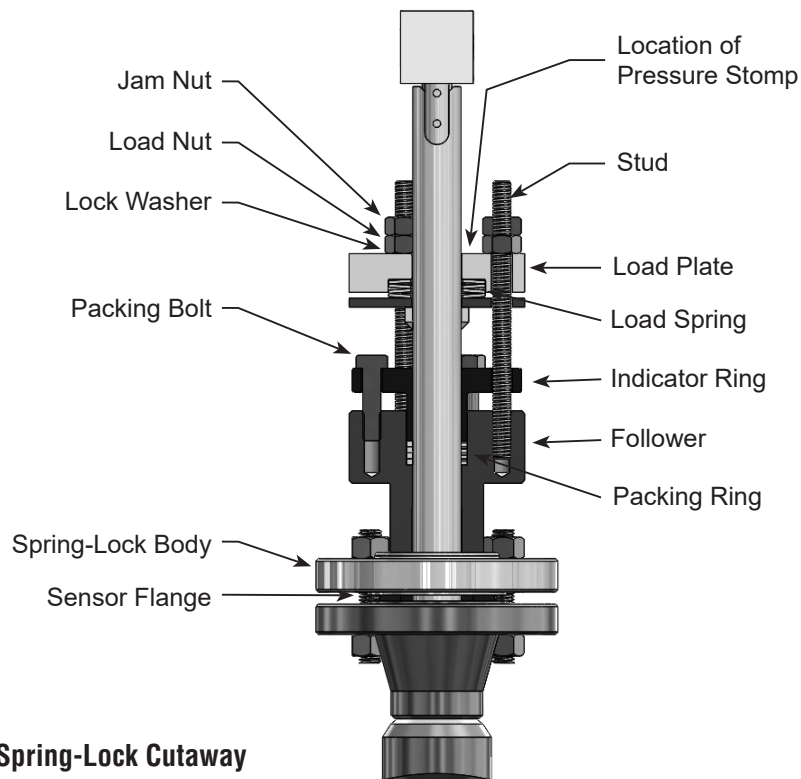

Figure 3. Spring-Lock Cutaway
- With the follower and packing rings already in place (factory assembled), insert the sensor into the Spring-Lock body (Figure 3). Loosely bolt together (hand tight) the sensor, gasket and mounting flange. Insert the assembly until the tip of the sensor hits the opposite side of the pipe. Align the head of the sensor so that the arrow labeled “FLOW” on the head is in the direction of the flow to within 3°. The contour of the weld coupling should match the contour of the pipe. Check that the bottom of the weld coupling is in contact with the pipe wall.